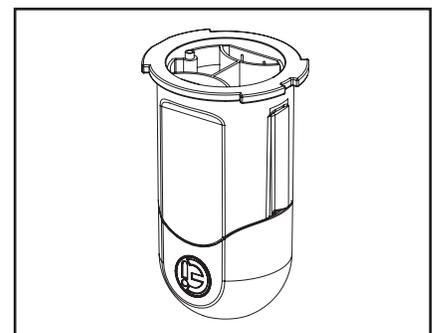

Figure 26. Invert the Cell
6. Refit the terminal cap on the cell and invert (see Figure 26).
7. With protective glasses and gloves on, add one (1) part acid to ten (10) parts water and mix.